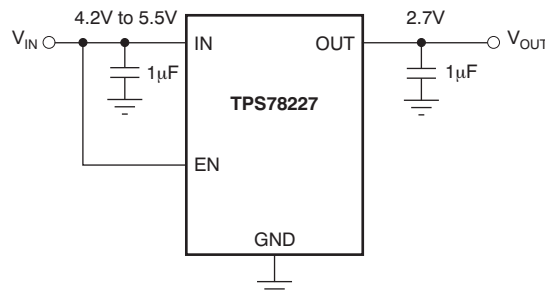

Figure 22. Circuit Showing EN Tied High When Shutdown Capability Is Not Required
The enable pin (EN) is active high and is compatible with standard and low-voltage CMOS levels. When shutdown capability is not required, EN should be connected to the IN pin, as shown in Figure 22. The TPS782 series, with internal active output pulldown circuitry, discharges the output to within 5%  $V_{OUT}$  with a time ( $t$ ) shown in Equation 1: